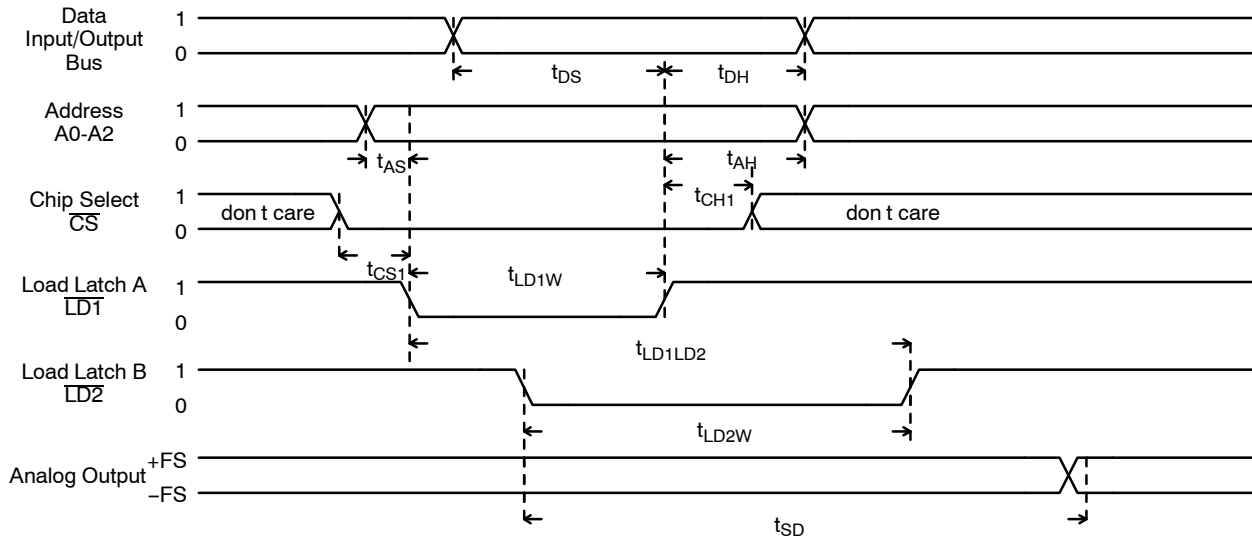

Figure 1. Loading Latch A and Updating Latch B
- See Figures 1, 2 and 3. All digital input signals are specified with  $t_R = t_F = 10$  ns 10% to 90% and timed from a 50% voltage level.